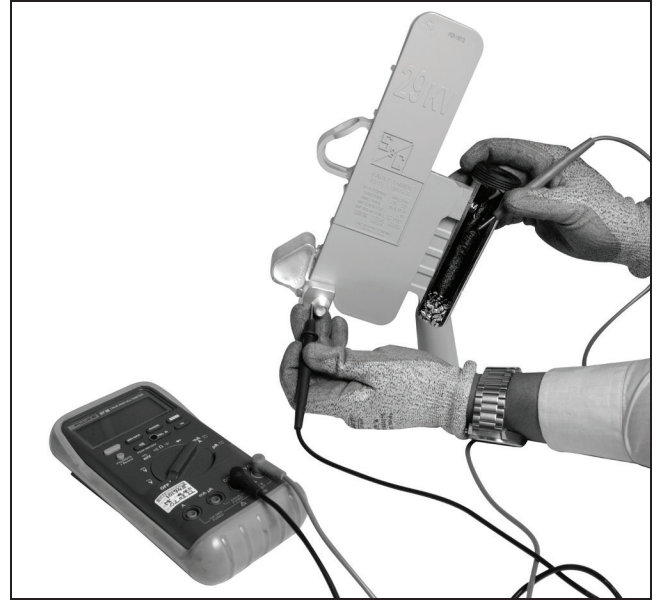

Figure 5. Checking the continuity of a backup limiter.
STEP 5. Immediately prior to installation, check the limiter to ensure no damage occurred during shipping. Visually inspect the unit with the trunnion removed to make sure there are no cracks or other visible damage. Check continuity to ensure internal limiter components were not damaged during shipping. See Figure 5 on page 11.
- STEP 3.** Determine whether the backup limiter has operated by checking its continuity. Touch one lead of the continuity tester to the trunnion and the other to the button contact inside the exhaust-control device. See Figure 5. The continuity test must be performed as part of the re-fusing procedure after every Fault Tamer Fuse Limiter operation.
Do not remove the screen or copper shot at the bottom of the exhaust-control section. See Figure 5. **Doing so can result in serious injury or death during a subsequent fault-clearing operation.**